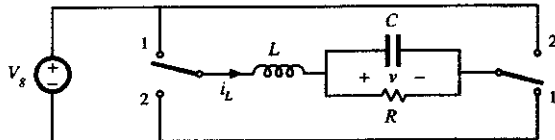

Fig. 2.30
- 2.4 The switches in the converter of Fig. 2.30 operate synchronously: each is in position 1 for  $0 \leq t \leq DT_s$ , and in position 2 for  $DT_s \leq t \leq T_s$ . Derive an expression for the voltage conversion ratio  $M(D) = V/V_g$ . Sketch  $M(D)$  vs.  $D$ .